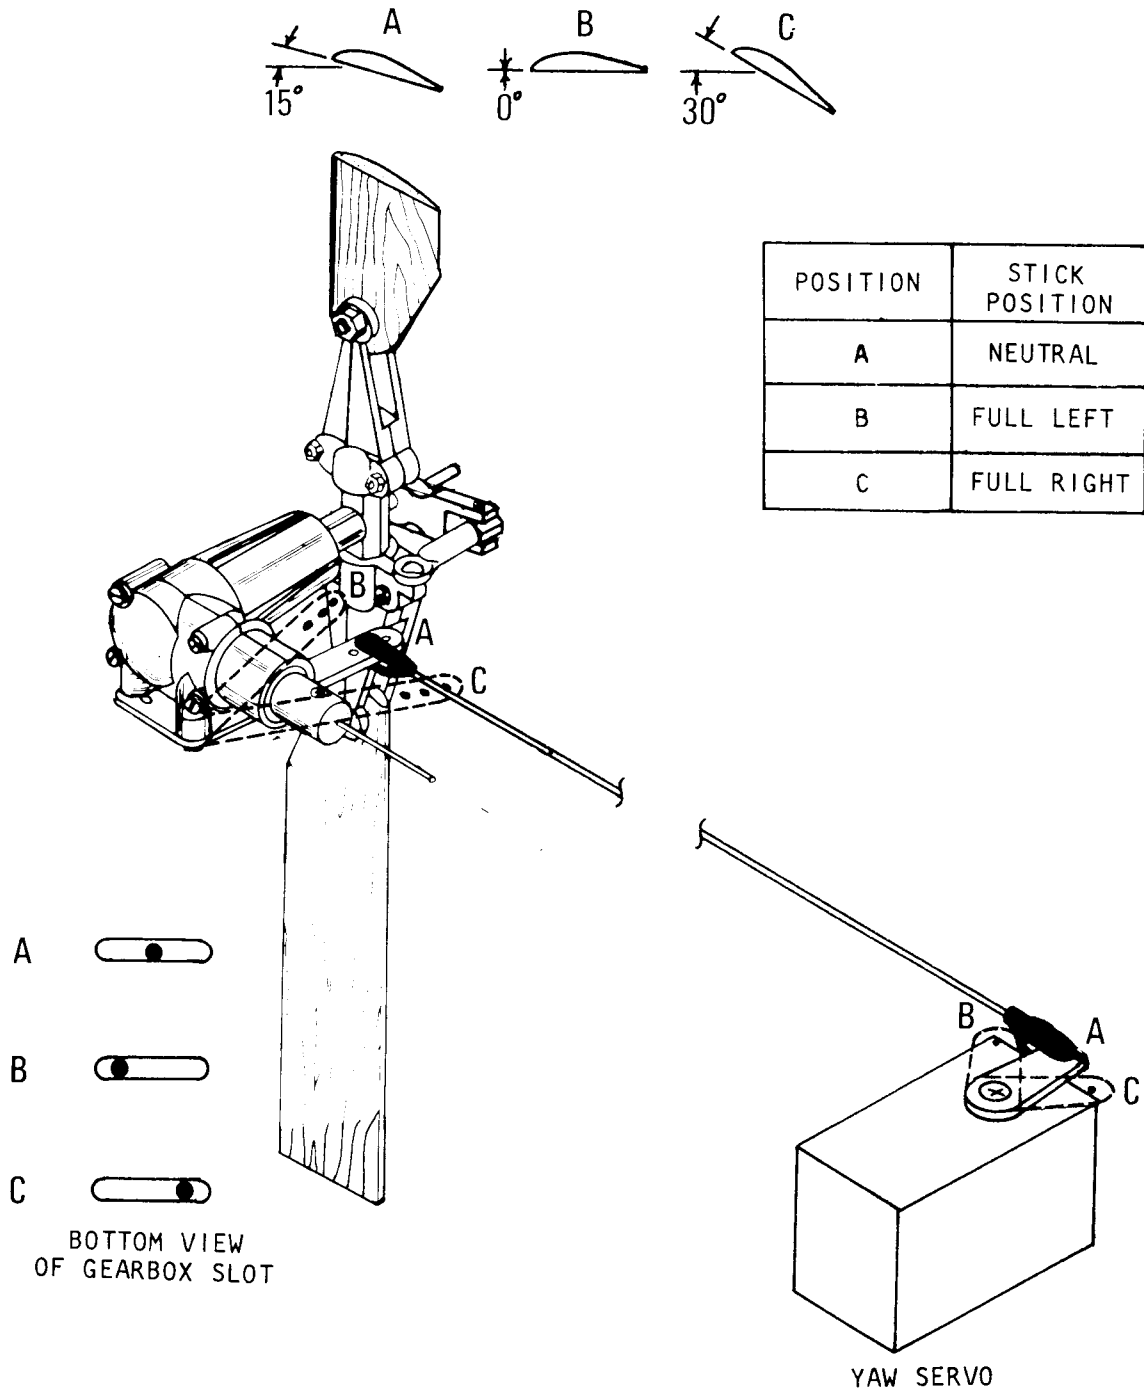

Figure 15
Tail Rotor Control Set-Up - see Figure 15
- A. Set the rudder servo arm at neutral position and, at this setting, the control rod from the rudder servo to the tail control lever should be adjusted in LENGTH until the PIN in the gearbox SLOT is CENTERED (see position 'A' in Figure 15).
- B. NOW, DON'T TOUCH (A) again and do the following: adjust the LENGTH of the rudder SERVO ARM (the distance from the pivot to the point where the tail wire is fixed) so that, with full left to right rudder stick movement (including the additional movement added by the trim lever also), the pin moves NEARLY (say 80%) the full amount of the movement that the slot will permit (see positions 'B' and 'C' in Figure 15).
- C. NOW, DON'T TOUCH the adjustments made in (A) or (B) again. Set the collars which position the pitch control plate on the pitch control wire so that, with FULL LEFT stick on the transmitter, the flat surface of the tail blades are approximately parallel to the line of flight (see position 'B' in Figure 15).
- D. NOW, when the rudder stick is NEUTRALIZED, the blades will look like position 'A' in Figure 15 and, when the rudder stick is full RIGHT, the blades will look like position 'C' in Figure 15.